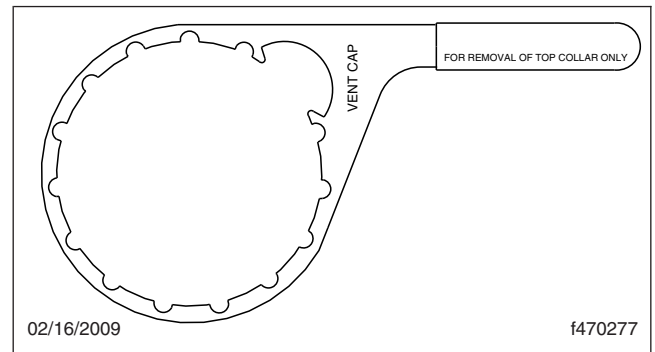

Fig. 3, DAVCO Collar Wrench
5. Using a DAVCO Collar Wrench (Fig. 3), remove the clear cover and collar.
- Using a DAVCO Collar Wrench, shown in Fig. 3, remove the clear cover and collar.